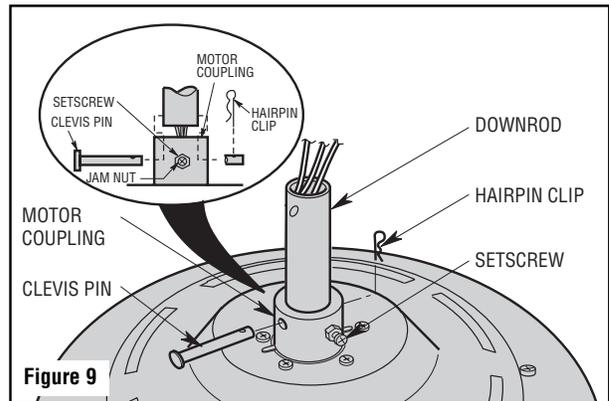

Figure 9
10. Separate, untwist and unkink the two 80" motor leads. Route the motor lead wires through the downrod with the holes in the motor coupler. Install the clevis pin and secure with the hairpin clip (Figure 9). The clevis pin must go through the holes in the motor coupler and the holes in the downrod. Be sure to push the straight leg of the hairpin clip through the hole near the end of the clevis pin until the curved portion of the hairpin clip snaps around the clevis pin. The hairpin clip must be properly installed to prevent the clevis pin from working loose. Pull on the downrod to make sure the clevis pin is properly installed.
**It is critical that the clevis pin in the motor coupler is properly installed and the setscrew securely tightened. Failure to verify that the pin and setscrew are properly installed (as shown in Figure 9) could result in the fan falling.**